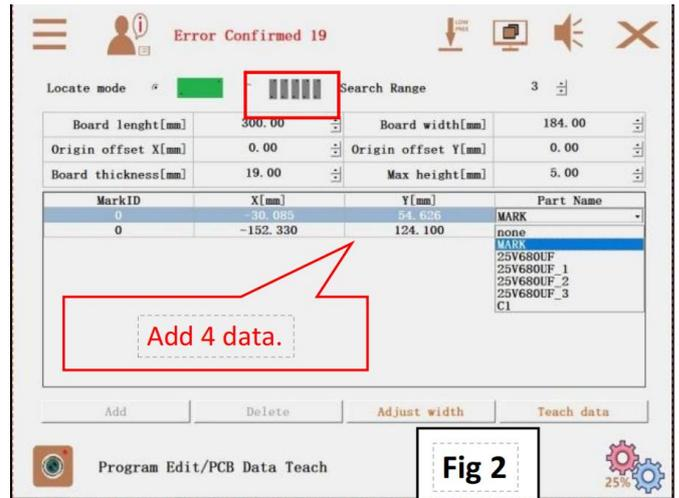

Fig 2
- b.** Select the panel form mode in the PCB positioning mode and add two groups of **Mark** coordinates (as shown in Figure 2);